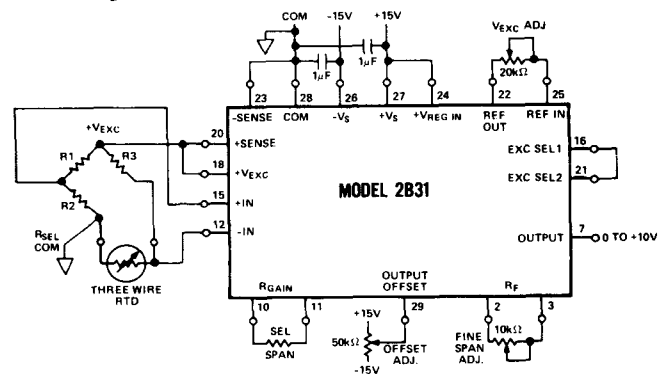

Figure 8. Three-Wire RTD Interface
**Interfacing Three-Wire Sensors:** A bridge configuration is particularly useful to provide offset in interfacing to a platinum RTD and to detect small, fractional sensor resistance changes. Lead compensation is employed, as shown in Figure 8, to maintain high measurement accuracy when the lead lengths are so long that thermal gradients along the RTD leg may cause changes in line resistance. The two completion resistors ( $R_1$ ,  $R_2$ ) in the bridge should have a good ratio tracking (±5ppm/°C) to eliminate bridge error due to drift. The single resistor ( $R_3$ ) in series with the platinum sensor must, however, be of very high absolute stability. The adjustable excitation in the 2B31 controls the power dissipated by the RTD itself to avoid self-heating errors.